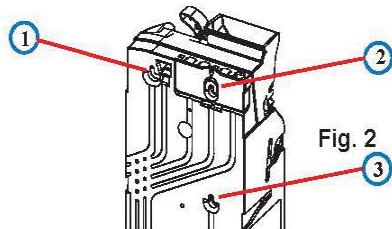

Fig. 2
- Once open, the mounting holes are accessible. Hang the Coin Manager on the mounting studs/screws, ensuring that the changer is mounted on all three studs/screws (See Fig 2).